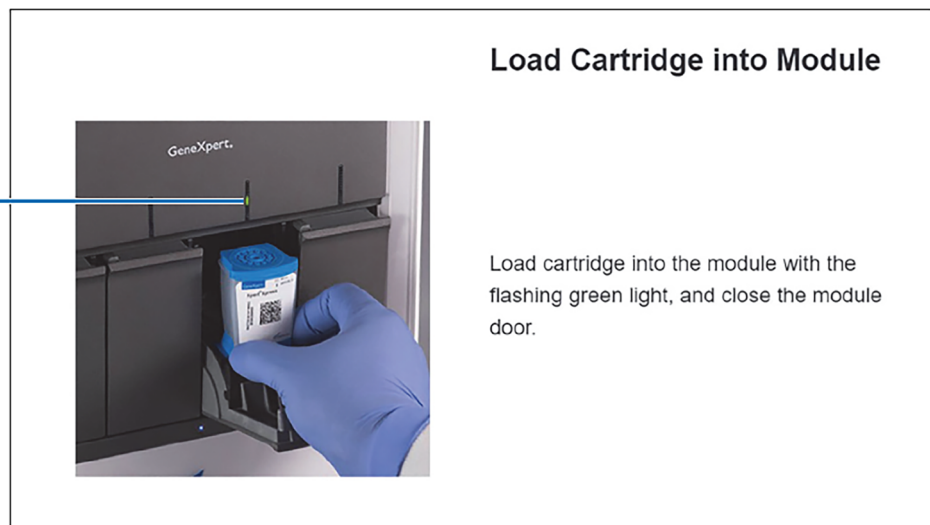

Figure 29. Load Cartridge into Module Screen
1. Touch the **CONTINUE** button on the **Cartridge Preparation** screen. The **Load Cartridge into Module** screen appears (see Figure 29).